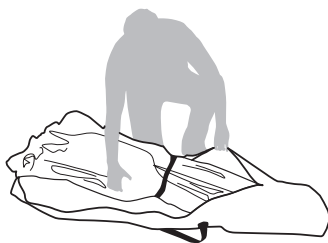

FIGURE 1
1. Remove the camping tent from the carrying bag. Remove the tie strap from around the unit. [**SEE FIGURE 1**]